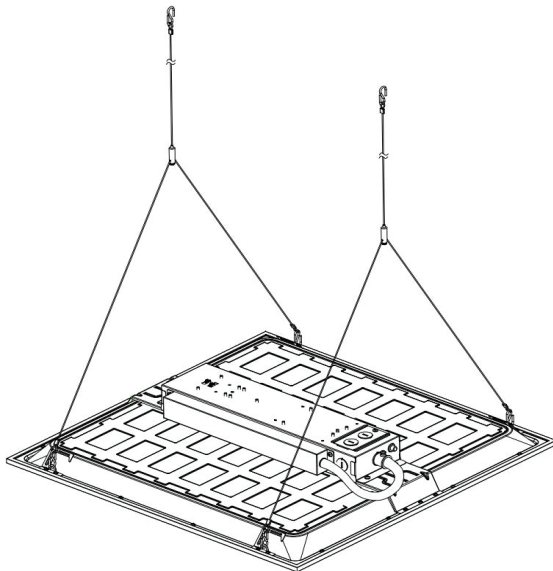

Figure 9
Step 1. Remove the knock-out hole on the side of the power box (Figure 9)